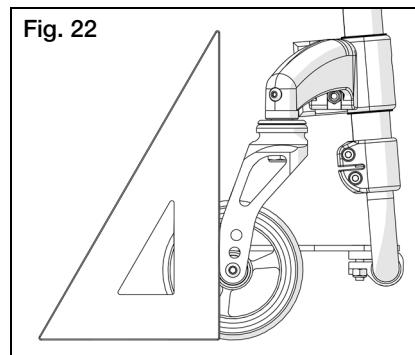

Fig. 22
3. Place a large right triangle against the table surface and flat trailing edge of caster fork (Fig. 22).